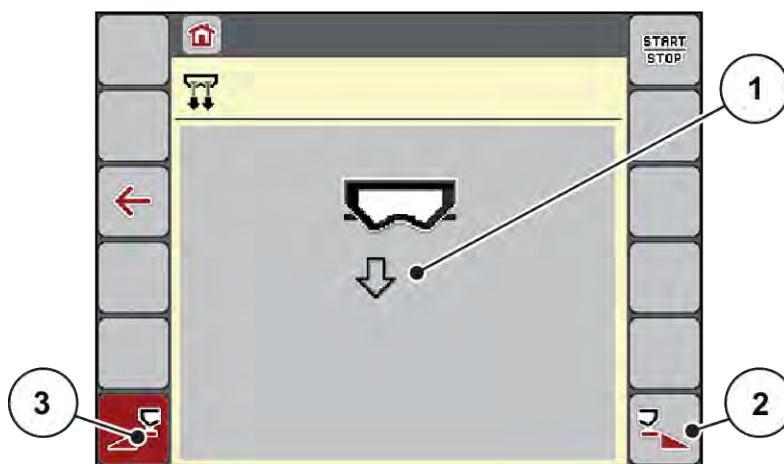

Fig. 20: Menu Fast emptying
*The selected section is displayed as an icon (Fig. 20 position [3]).*